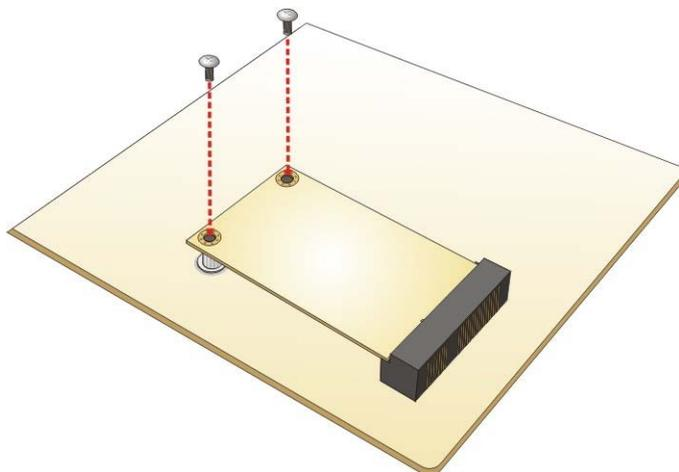

Figure 3-9: Securing the Full-size PCIe Mini Card
Step 5: Secure the full-size PCIe Mini card with the retention screws previously removed (**Figure 3-9**).